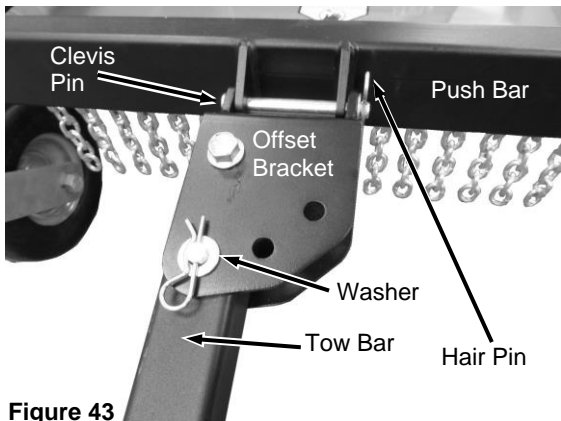

Figure 43
2. Support Tow Bar when removing Hair Pin, Washer, and Clevis Pin that secures the Offset Bracket to Push Bar (**Figure 43**).